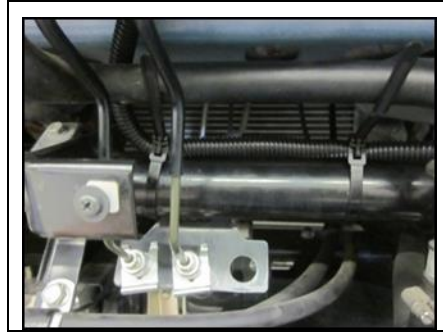

Figure 32
12. Secure the DFT harness with two (2) tie-straps onto the torsion bar. (See Figure 32.)